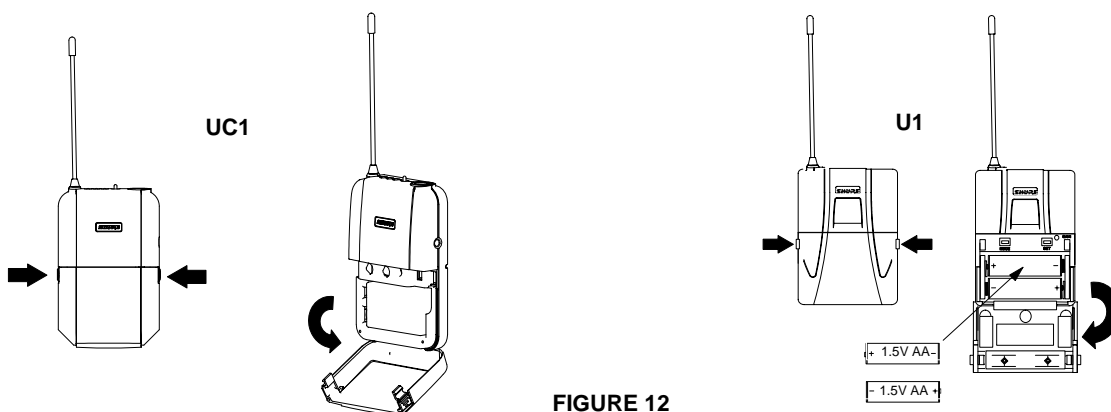

FIGURE 12
2. Open the transmitter battery compartment by squeezing the two tabs on either side of the transmitter. Then flip the battery cover down. Refer to Figure 12.